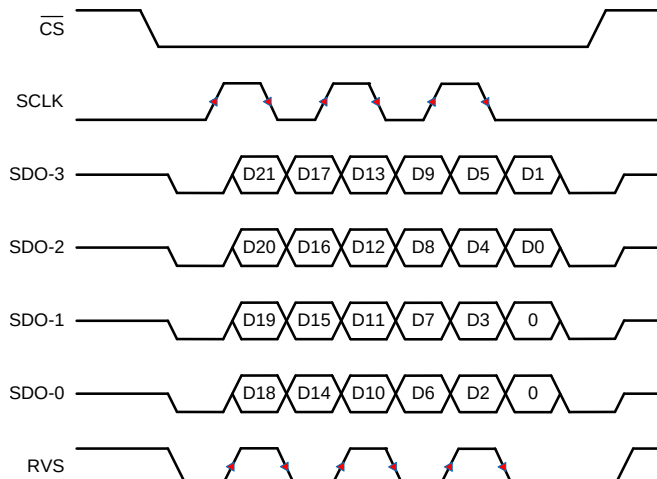

**Figure 83. SRC-EXT-QD: SRC, SCLK, Quad SDO, DDR**
| SRC-EXT-QD | SCLK (1)       | Quad      | DDR              |                                      | 1Fh      | 3                                  | <a href="#">Figure 83</a> |